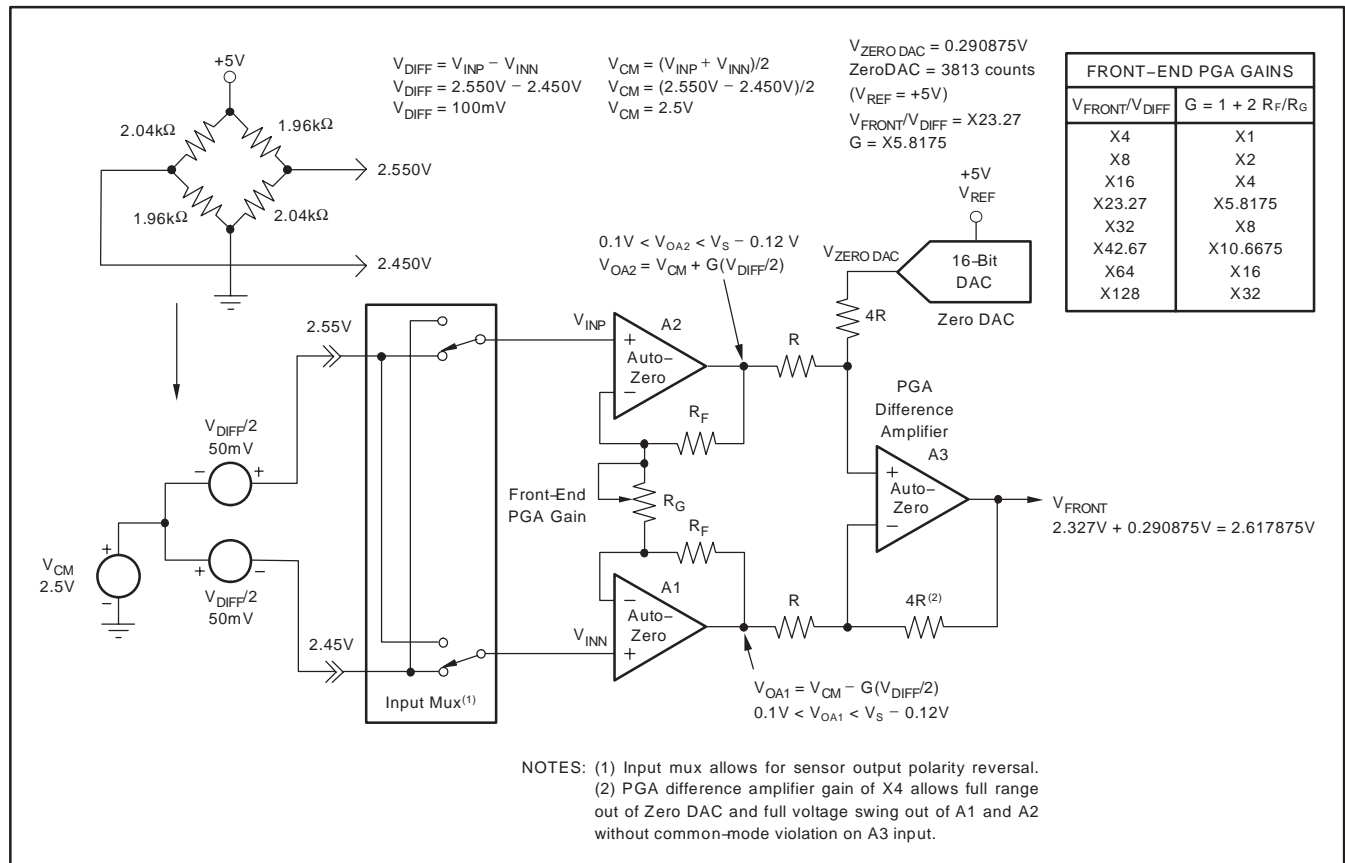
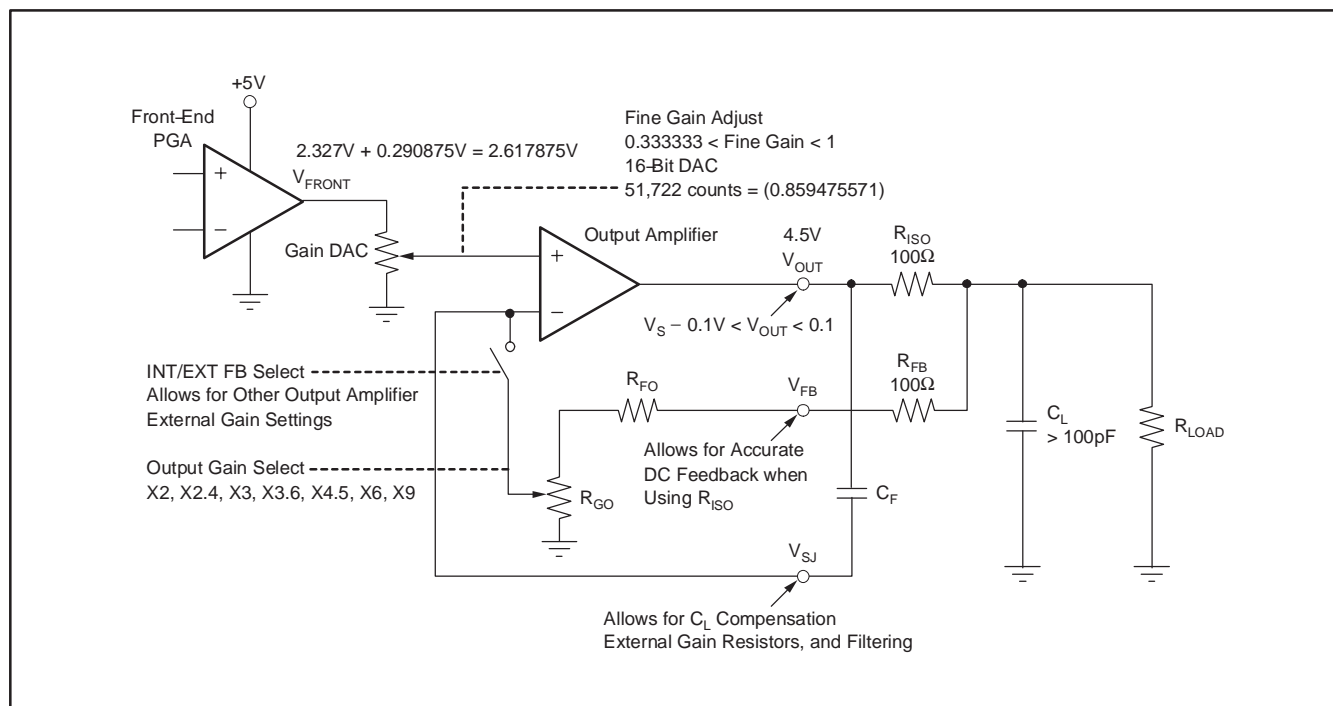

Figure 3. Front-End PGA Gain
Figure 4. Fine Gain Adjust of the PGA309
An example bridge sensor application will be used to examine internal nodes of the PGA309 that are related to the gain blocks (refer to Figure 3 and Figure 4).
- Calculate V_{CM} and V_{DIFF} for Maximum Sensor Output (see Figure 3):
As with any instrumentation amplifier there are limitations on the output voltage swing and input common-mode voltage range. The circuit in Figure 3 is representative of the front-end PGA inside of the PGA309 and is used to evaluate critical internal node voltages to ensure that output voltage swing and common-mode limits are not violated. It is possible to violate the limits of these internal nodes and still have apparently valid output voltages at V_{OUT} of the PGA309. There are internal comparators that can be set to monitor these internal nodes to indicate an out-of-limit condition during sensor calibration (see Fault Monitor section).
output, V_{BRmax} . The model for this conversion is illustrated in Figure 3. The front-end PGA must have a gain of 4 in difference amplifier A3. To analyze important internal nodes V_{OA1} and V_{OA2} , it is necessary to assign the proper gain factor (G) to op amps A1 and A2. This is detailed in Figure 3 with the respective equations for the output voltages shown at the appropriate nodes. For V_{BRmax} , V_{OA1} and V_{OA2} are within the allowed voltage swing of:
Other applications may yield different results that require different gain scaling or a resistor in the positive or negative leg of the sensor excitation path to adjust the common-mode input voltage of the PGA309. The input voltage range of the PGA309 is specified as $0.2V < IVR < V_{SA} - 1.5V$, which for this application translates to $0.2V < IVR < 3.5V$. In Figure 3 we see $V_{INP} = 2.550V$ and $V_{INN} = 2.450V$, which is within the acceptable input voltage range specification.
Figure 4 depicts the Gain DAC and Output Amplifier gain blocks inside the PGA309. For this example the Gain DAC was set to $\times 0.859475571$ and the output amplifier to $\times 2$. As shown in Figure 4, the net output voltage, V_{OUT} , is 4.5V for the maximum sensor output, V_{BRmax} .